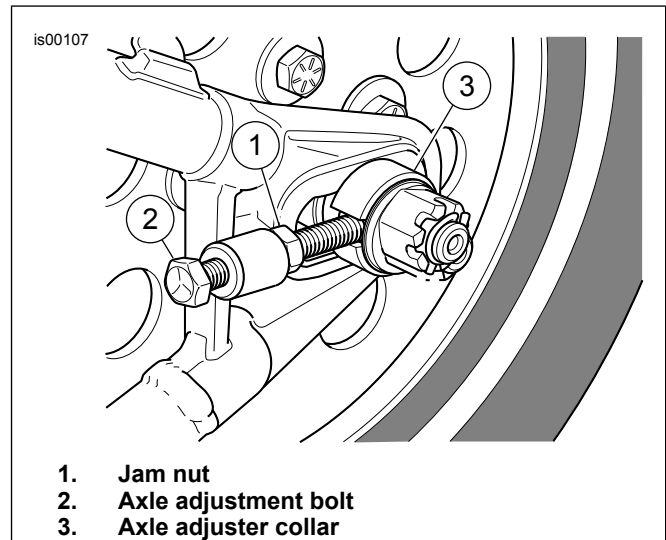

Figure 1. Rear Axle Hardware (Left Side)
1. Remove the Saddlebags if desired for extra working clearance. For original equipment (OE) bags, see SADDLEBAG REMOVAL in the Service Manual. For accessory saddlebags, refer to the appropriate kit instruction sheet.
2. See Figure 1. On one side of the motorcycle, loosen the jam nut (1). Remove the original axle adjustment bolt (2) and jam nut. Save the jam nut. The bolt can be discarded.